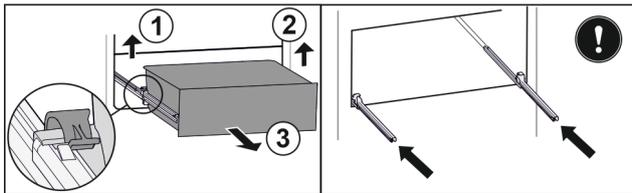

Fig. 26
- ▶ Lift the left clamp and simultaneously pull the drawer on the left to the front Fig. 26 (1).
- ▶ Lift the right clamp and simultaneously pull the drawer on the right to the front Fig. 26 (2).
- ▶ Remove the drawer to the front Fig. 26 (3).